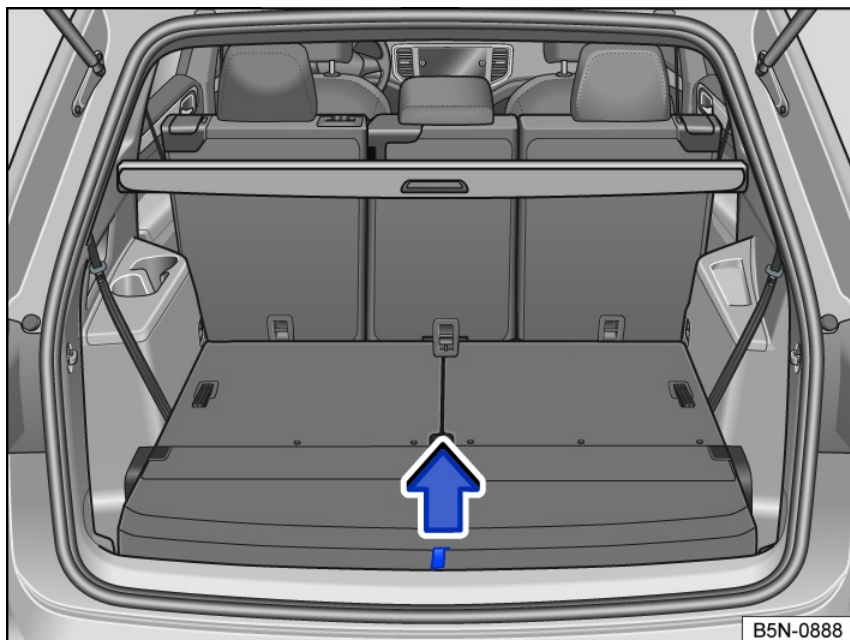

Fig. 158 In the luggage compartment: Lifting up the luggage compartment floor.
- Pull the luggage compartment floor upwards by the loop fig. 158 in the direction of the arrow and remove it.